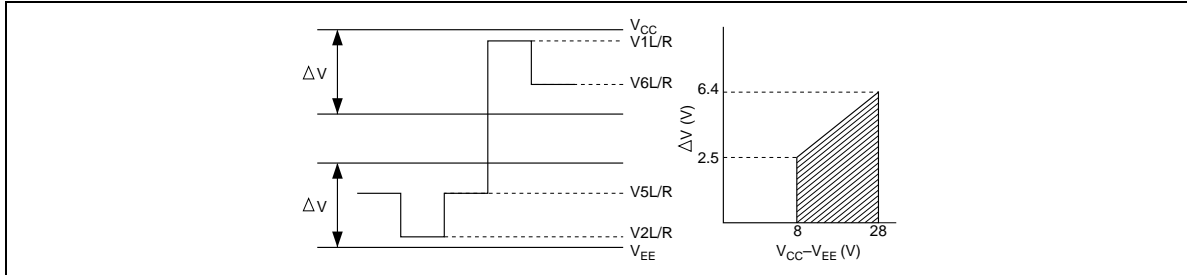

Figure 21 Relationship between Driver Output Waveform
14. V1L/R and V6L/R should be near the V_{CC} level, and V5L/R and V2L/R should be near the V_{EE} level. All these voltage pairs should be separated by less than ΔV , which is the range within which R_{ON} , the LCD drive circuits' output impedance is stable. Note that ΔV depend on power supply voltages $V_{CC}-V_{EE}$. See Figure 21.